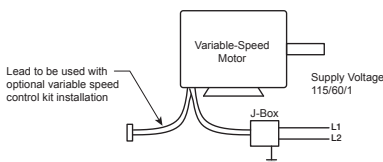

Figure 6
2. Wire motor for desired voltage per wiring diagram on motor or refer to Figure 6 for connection wiring diagram.